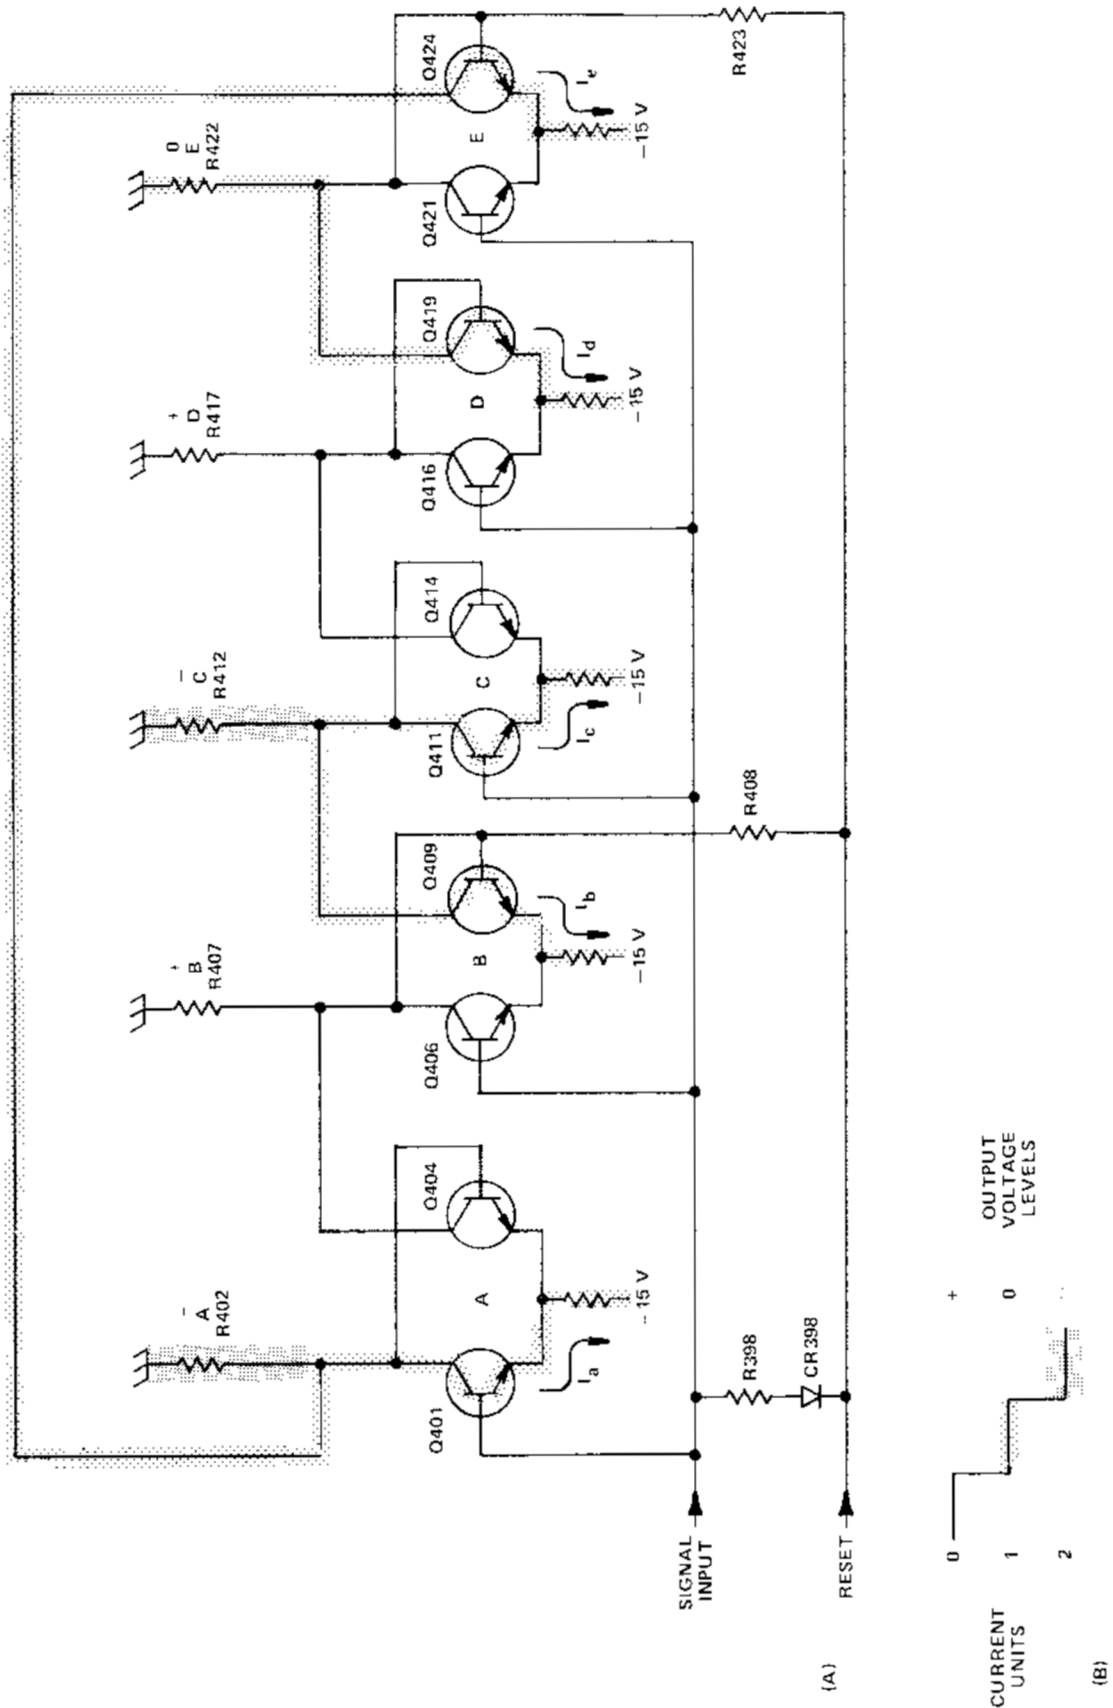

Fig. 2-4. (A) Ring Counter simplified schematic diagram; (B) Multivibrator current units/output voltage levels chart.
**Gated Ring Counter.** The Gated Ring Counter is made up of five DC coupled multivibrators. Each multivibrator (multi) receives the input signal, however, the ring counter configuration is such that an input will change the state of only one multi. In turn, this conditions the succeeding multi to respond to the next input, etc. A simplified diagram of the ring counter is shown in Fig. 2-4. Each multi is made up of two transistors. The multis are identified in Fig. 2-4(A) as multi A, Q401 and Q404; multi B, Q406 and
In each multi, the emitter-resistor current (e.g.,  $I_a$ ) will flow through the transistor which has the more positive base level. The current through a multi load resistor is determined by the state of the corresponding multi and the preceding one. Therefore, the load resistor current can be at one of three levels; and, this will result in one of three voltage levels dropped across the load resistor. For example, the voltage dropped across the load resistor B may be due to one current unit ( $I_a$  or  $I_b$ ), two current units ( $I_a + I_b$ ), or zero. The voltage levels resulting from zero, one, and two current units through a load resistor are represented in Fig. 2-4(B); and are labeled +, 0, and - respectively.
After reset, the state of each multi is shown in Fig. 2-4(A) by the direction of the arrow representing emitter-resistor current. The resultant voltage dropped across each load resistor is A, -; B, +; C, -; D, +; and E, 0. The multi output voltage is applied to the base of the right transistor through a zener diode. The zener diode provides level shifting to keep the relative voltage level between the right and left transistor bases the same. As reset is applied, the counter assumes the state shown in Fig. 2-5 labeled RESET HI and changes to the state labeled RESET LO as the reset pulse is removed.